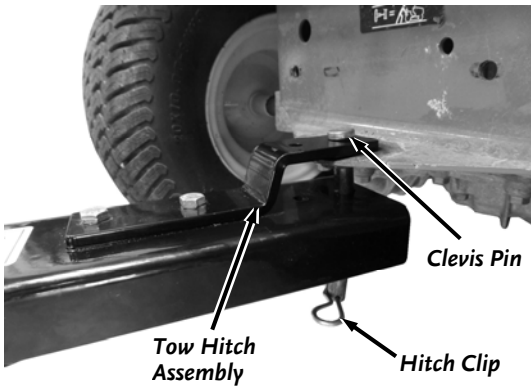

Figure 28
1. Lift the Chipper Tow Bar onto the Tractor Hitch and install the Hitch Pin and Hitch Clip to secure it (**Figure 28**).